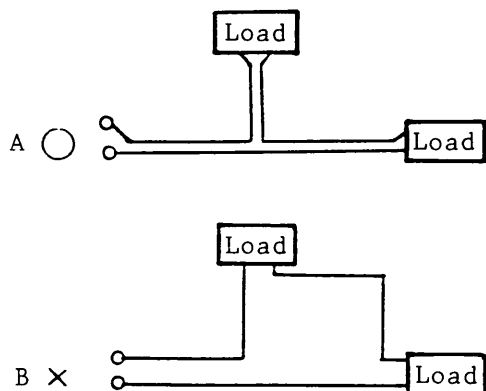

Figure 13
- o Run the two output cables in close parallel as shown in Figure 13 (A) but not as shown in (B).